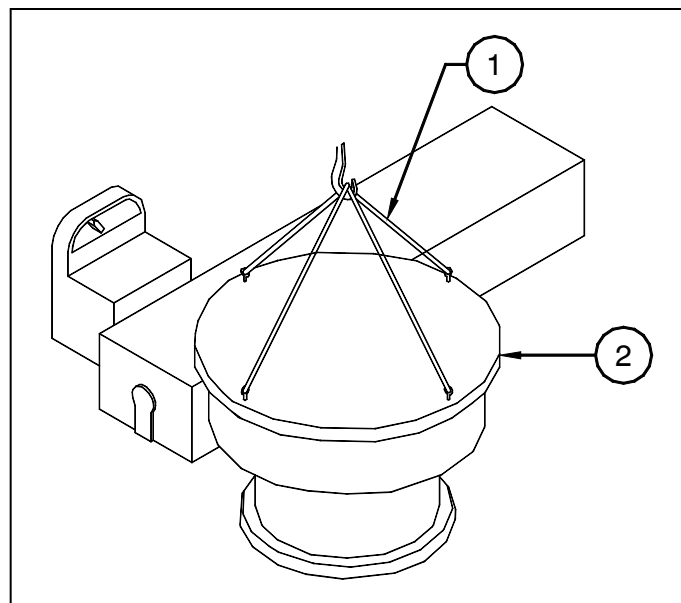

Figure 4.7a
lifting illustration. See Figure 4.7a. Place four (4) eye bolts symmetrically through the upper cover screw holes into the housing and lift with cables. If shims are in place between the worm housing and lower drive, match mark them so they can be returned to their original positions.